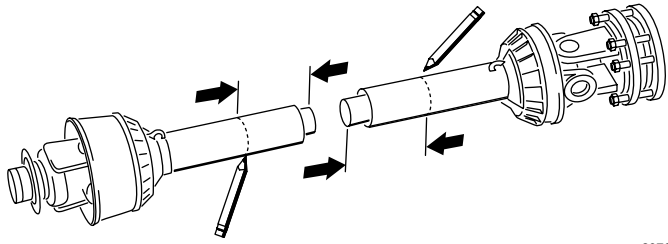
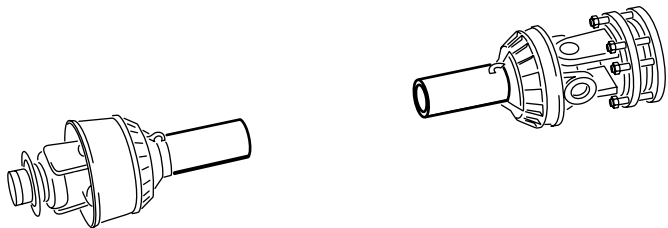

Figure 18
Figure 19
13. Using the dimensions determined in step 8, locate, mark, and cut off the shield and tube from each PTO half (Figure 18 and Figure 19).